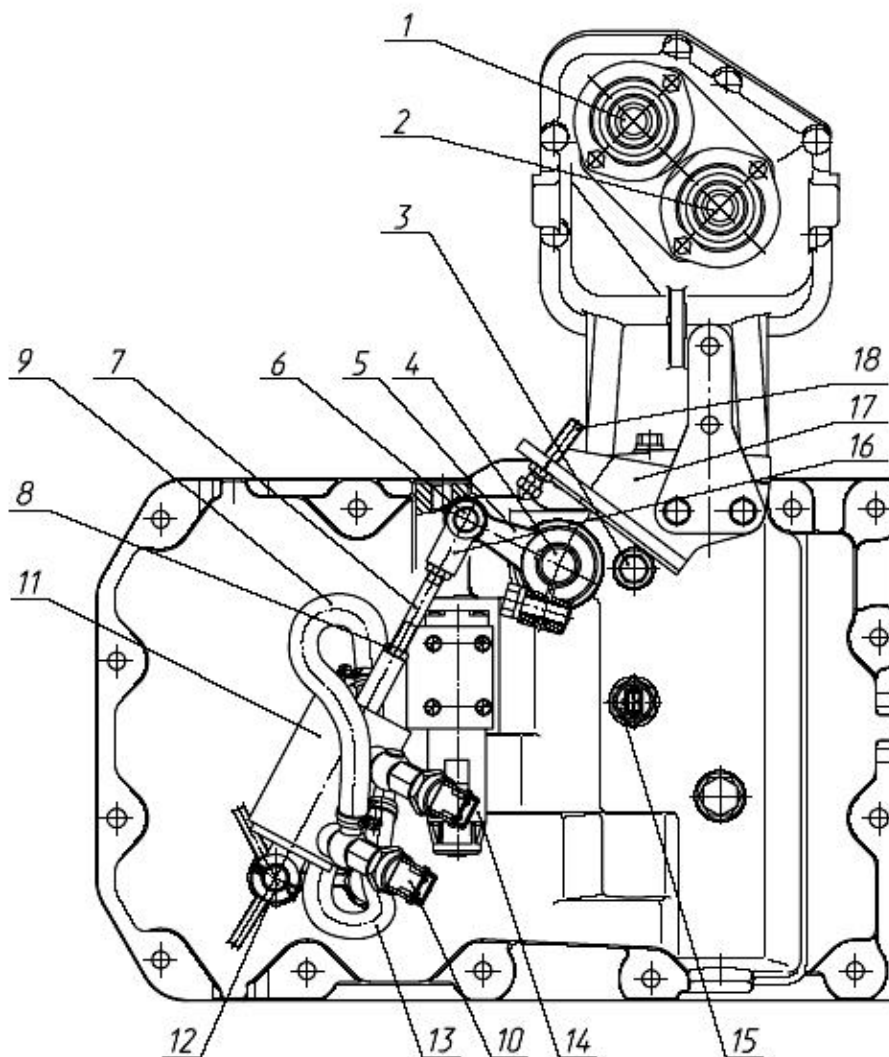
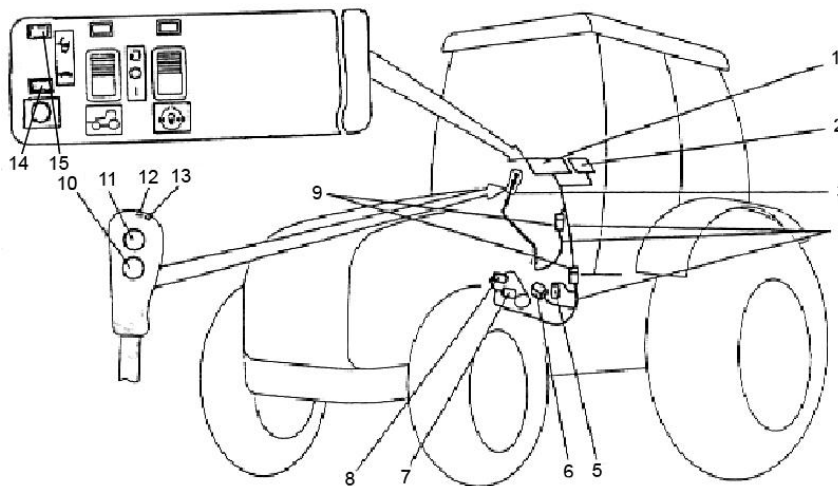

Fig. E-15.5. High-to-low reduction gear stage switch-over mechanism:
Fig. E-15.6
The **high-to-low reduction gear stage switch-over mechanism of the transmission gearbox** (Fig. E-15.5) is mounted on the gear-shift mechanism cover and consists of a cylinder (11) fixed on the axle (12), pusher (7) and lever (5) mounted on the roller (4). The fork (16) is connected with the lever (5) by means of the pin (6). The lever of the roller (4) meshes with the dog of the fork (18) (Fig. E-15.1) and forces the synchronizer (26) coupling to move as the roller rotates. The position of lever (5) is adjusted by
The **electro-hydraulic control system** (Fig. E-15.6) involves a control panel (1) located in the tractor cab to the right of the driver, a gear-shift and reduction gear stage switch-over lever (3), GB neutral pickup (5), sensors (7 and 8) mounted on the reduction gear switch-over hydraulic cylinder (11) (Fig. E-15.5), electro-hydraulic distributor (6) located atop of the transmission gearbox cover, and connecting cables (4) with terminal blocks (9). The system is supplied with power from the on-board power system through a fuse block (2). Voltage is applied following the engine start-up.